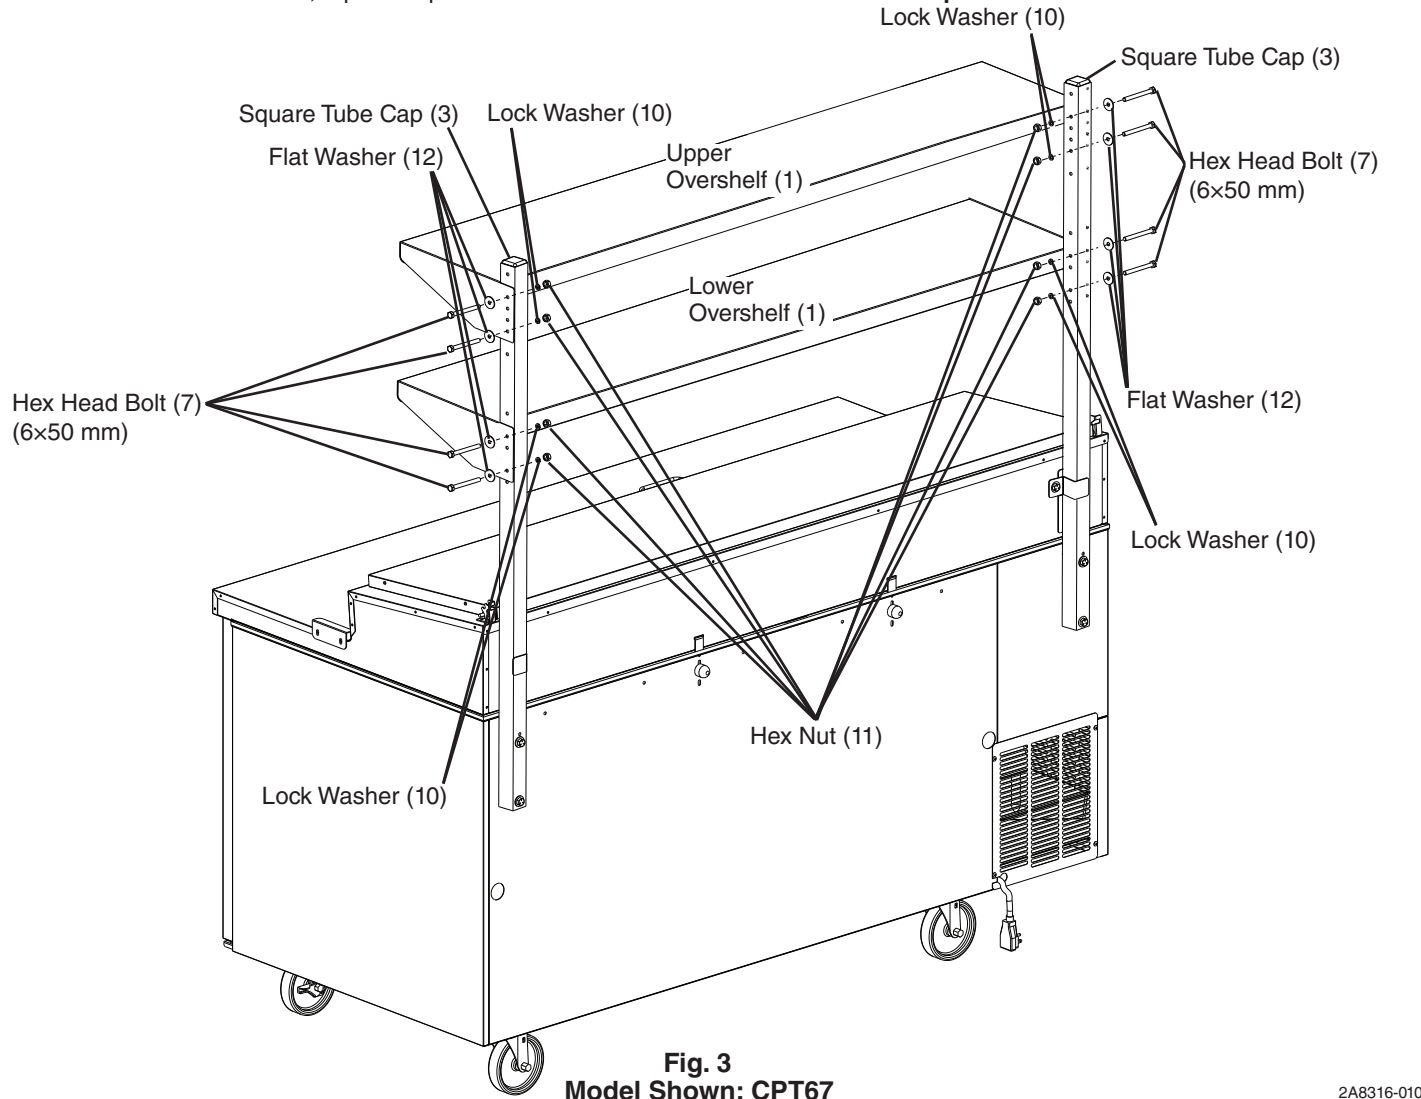

Fig. 3
- 6) Using 6x50 hex head bolts (7), lock washers (10), flat washers (12), and hex nuts (11), place overshelf (1) in position and snug both sides of overshelf (1) to square tube (2). See Fig. 3.